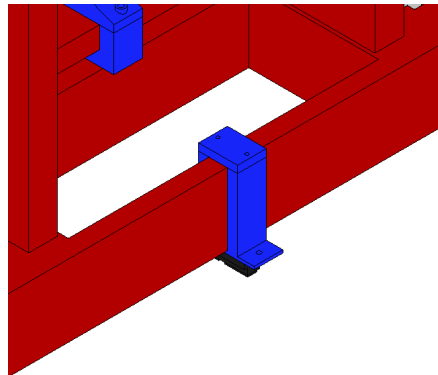

Figure 30: GPR holder assembly with the *VNA mount* attached on top.
8. Consider both the *IR sensor support* and the *IR sensor cap*. Identify the two holes for M3 inserts in the top side of the *IR sensor support*. Heat two (2) M3 inserts with a heat gun or a soldering iron and place them into their respective holes. Allow the inserts to cool down before proceeding. Place the *IR sensor support* underneath the central part of the *antennae holder*. Secure the *IR sensor support* in place with the *IR sensor cap* using two (2) M3 screws. Attach the IR sensor using two (2) additional M3 screws. Figure 30 shows the assembly of the IR sensor mount.